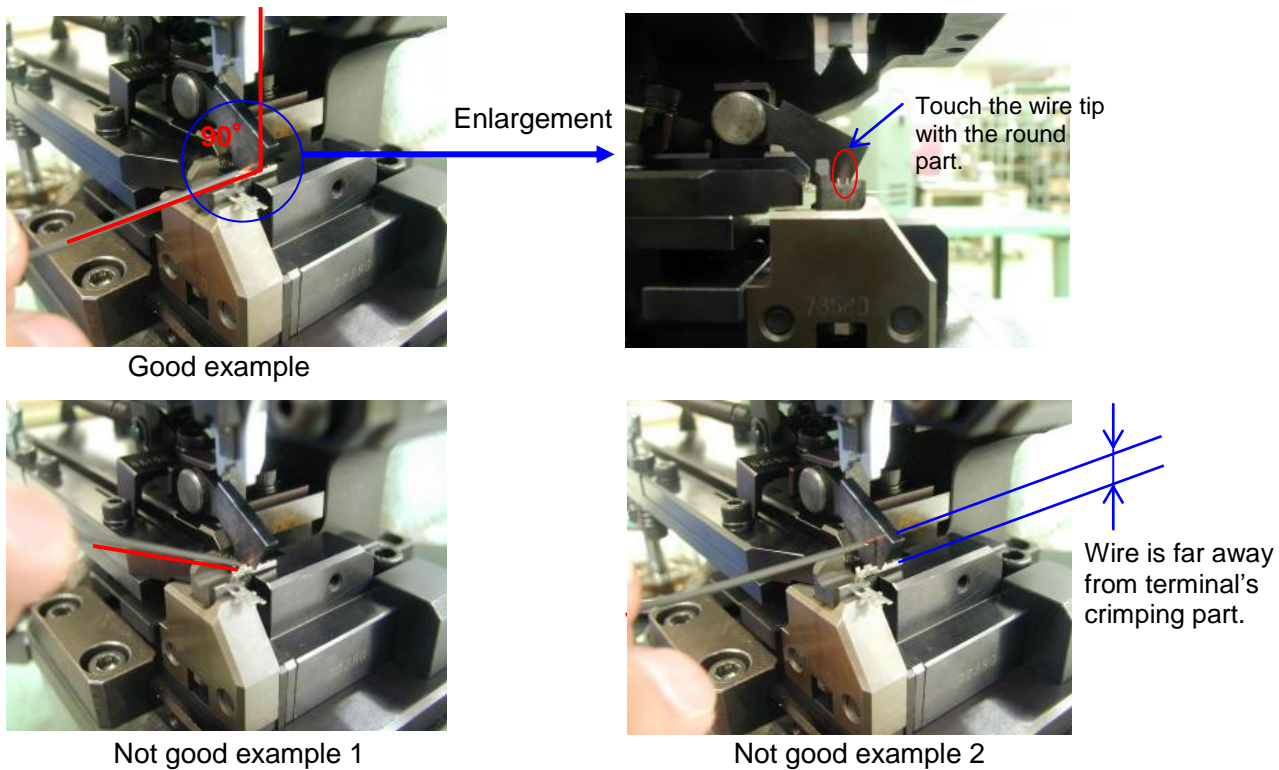
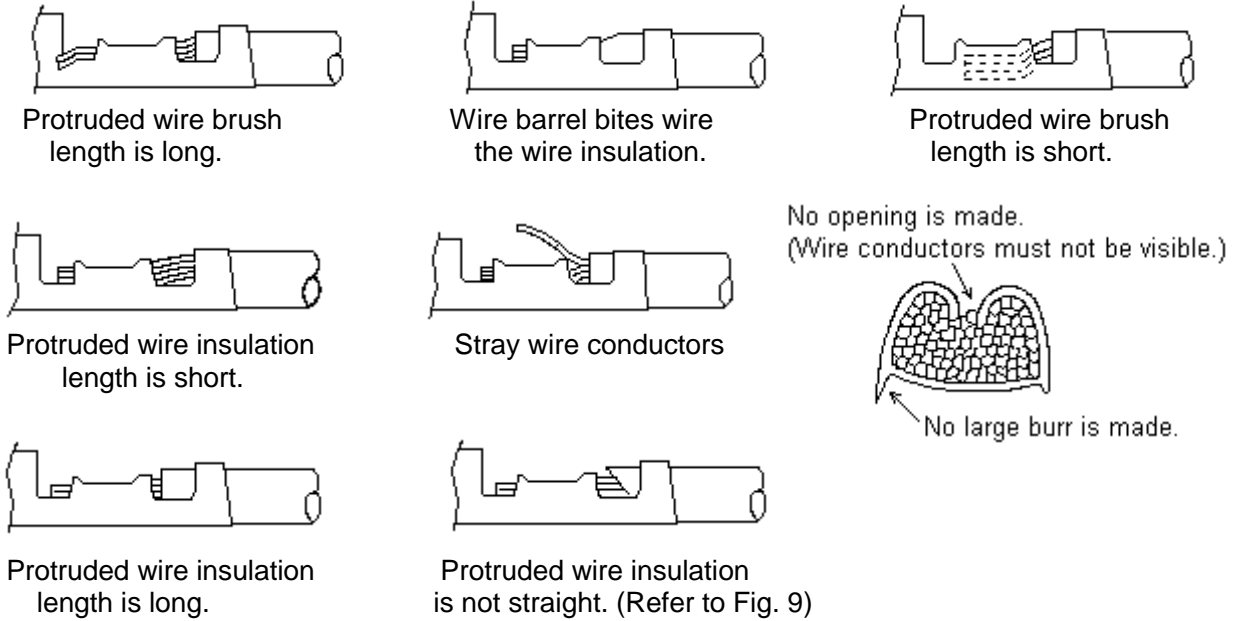

Fig. 5
Fig.11
- Precautions for crimping operation are shown in Fig.5. Crimp the wire as close as possible to the terminal crimping part. (See "Good example") Do not crimp the wire at the position which is far from the terminal's crimping part or set the wire diagonally (See "Not good example 1, 2"), because such handling may cause the defective crimping shown in 7-2-2, "Example of defective crimping (Fig. 11)"
Examples of defective crimping (Fig 11)